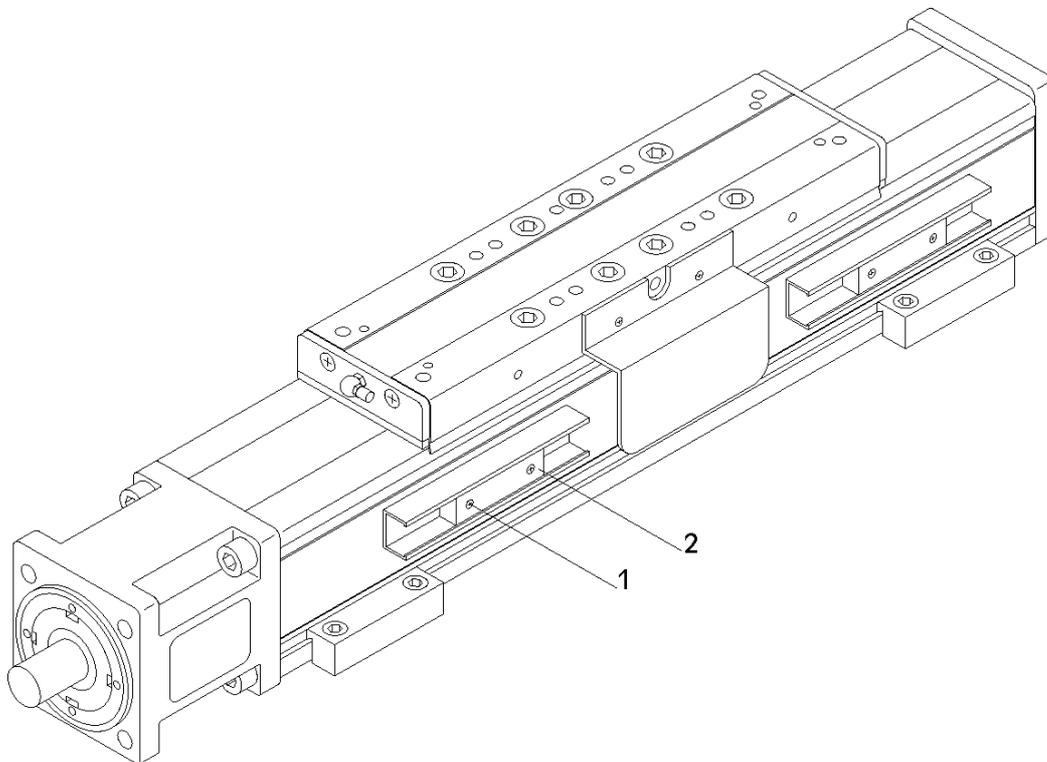

Fig. 6
1. Fig. 6: Release the proximity switch by loosening the attachment screw (1).
2. Move the proximity switch (2).